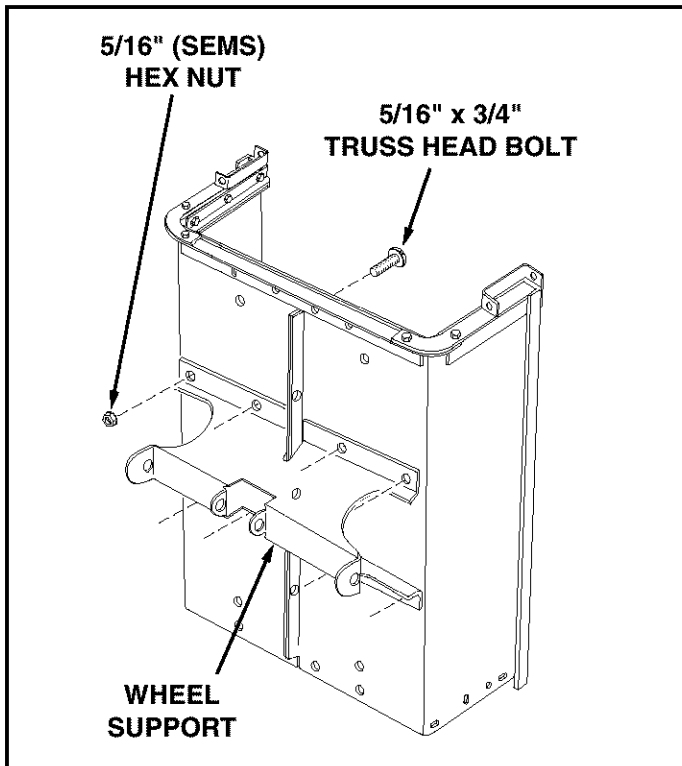

FIGURE 4
- Assemble the wheel support to the bottom of the cart using eight 5/16" x 3/4" truss head bolts and 5/16" (SEMS) hex nuts as shown in figure 4. Heads of bolts go on the inside of cart. **Tighten**.